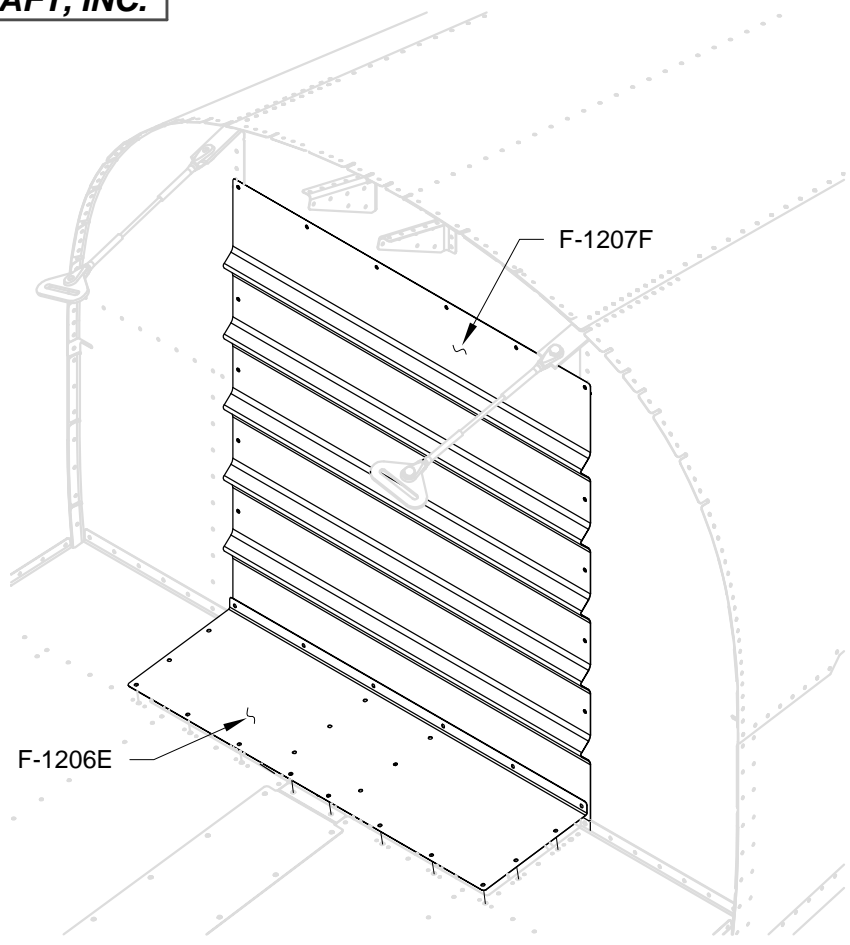

FIGURE 1: REMOVE ACCESS COVERS
Step 1: Remove the F-1206E Baggage Cover and F-1207F Baggage Bulkhead Corrugation. See Figure 1.